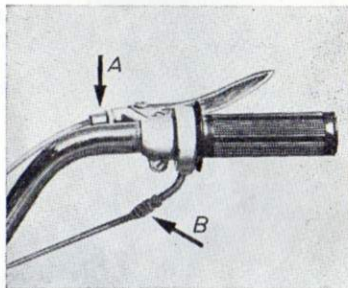

Fig. 5
- 2.3 The throttle twist-grip is positioned at the right side of the handlebars. It is important that both throttle and clutch cables should have a free run so that turning of the handlebars does not interfere with their operation B. Fig. 5.
2.4 **BRAKES** — the front brake lever is situated on the right-hand of the handlebars and is connected to the brake shoes by means of a flexible steel cable A. Fig. 5